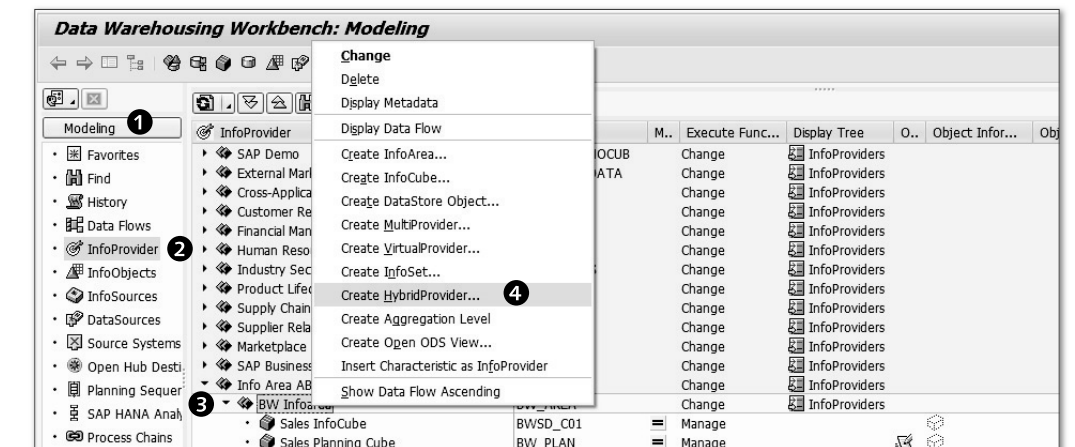

Figure 6.61 Creating a HybridProvider
A HybridProvider is created in the DATABASE WAREHOUSING WORKBENCH screen, which is started using Transaction RSA1. Select INFOPROVIDER under MODELING from the navigator section, as shown in ① and ② of Figure 6.61.